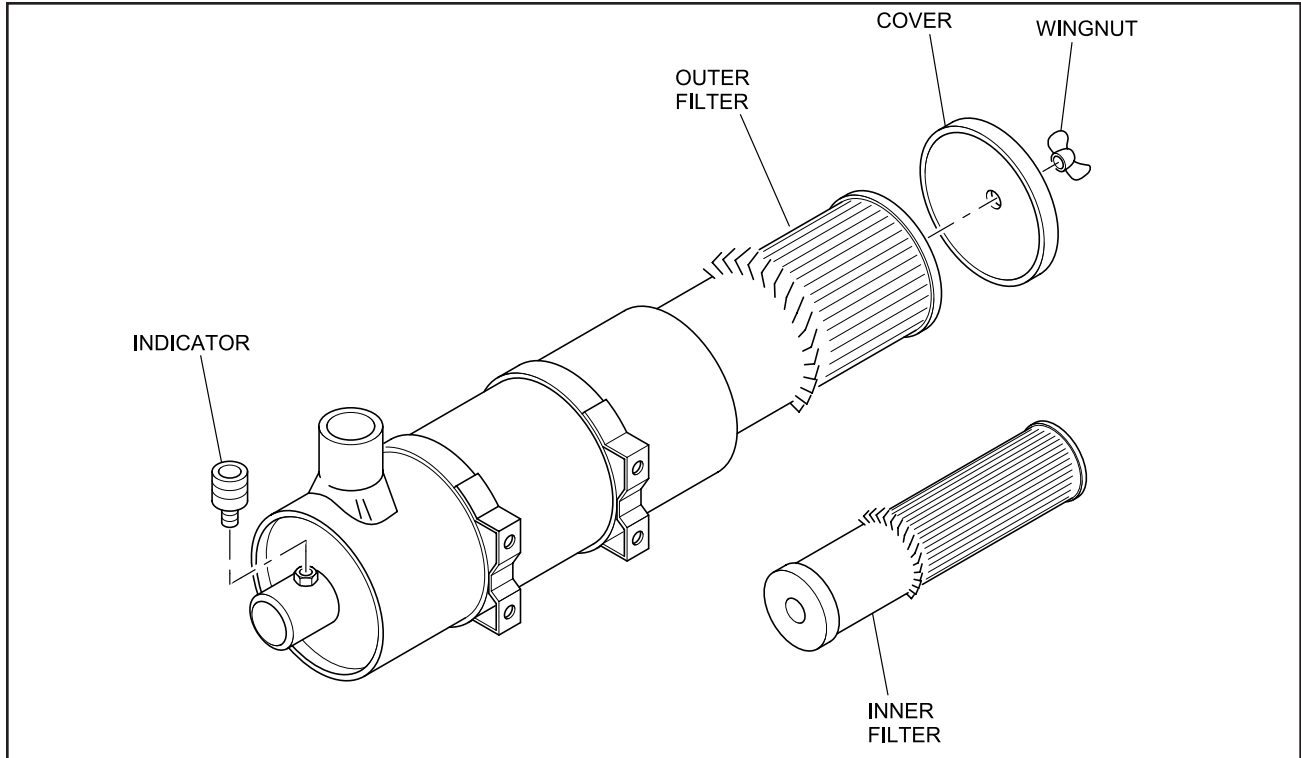

FIGURE 4-4. ENGINE AIR FILTER
The air filter indicator is located on the intake of the air filter (see Figure 4-4). As the air filter becomes more clogged, the air pressure increases causing the red flag in the indicator to become visible. When this occurs the air filter must be cleaned or replaced as follows:
1. Remove the wing nut (see Figure 4-4), securing the cover on the filter housing then remove the cover.